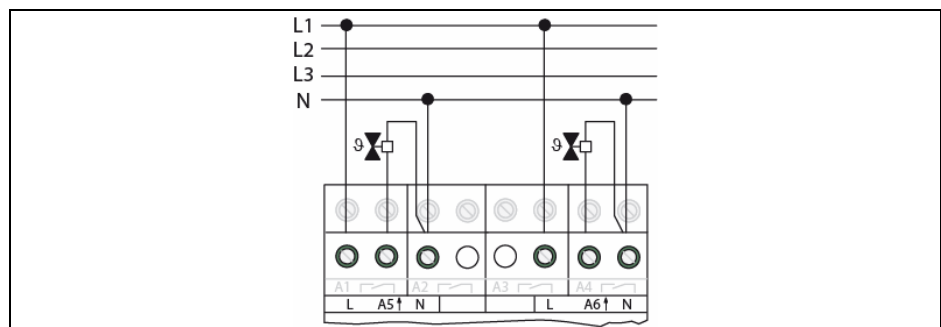

Fig. 6: Connection of electro-thermal 230 V valve drives
- Connect the valve drives (Fig. 6). Connect 4 valve drives maximum to one output.
- ① Connect only electro-thermal valve drives.
- ① In the case of electro-thermal valve drives, attention must be paid to the working characteristics normally open or normally closed (see project design data).